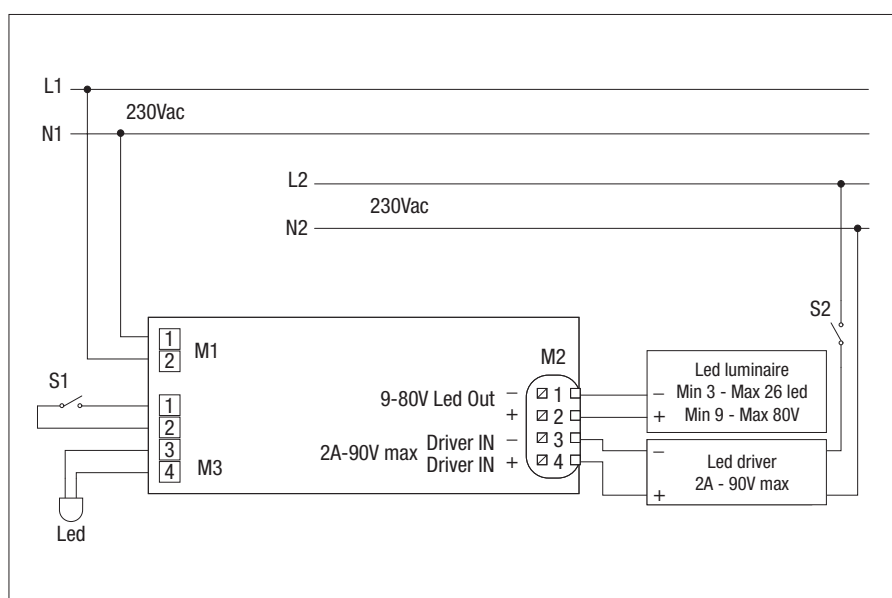

Fig. 2
- **SA:** permanent, see fig. 2 (in the event of a power cut, the lighting appliance remains on even though with reduced brightness);